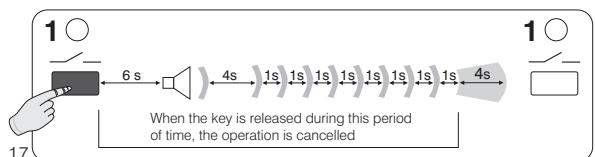

Fig. 17
- Press and hold the **key** **1** until the end of the sequence of beeps shown in the figure 17; then let go. The transmitter coupling is erased from the memory of the receiver and **channel 1** is free.